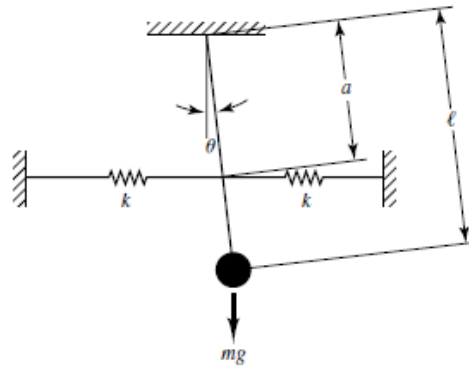

Figure 6
- 5B.** Consider the spring-loaded pendulum system shown in Figure 6. Assume that the spring force acting on the pendulum is zero when the pendulum is vertical, or $u=0$. Assume also that the friction involved is negligible and the angle of oscillation u is small. Show that mathematical model of the system as **(03)**